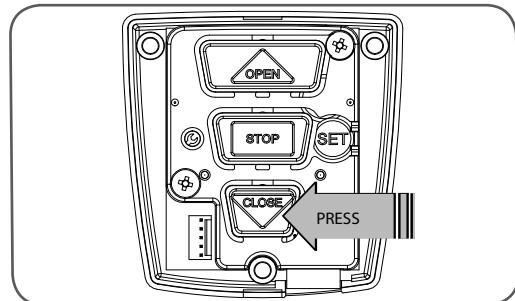

fig 09
2. Press and hold the CLOSE button (Fig. 09)- the shutter should start closing.